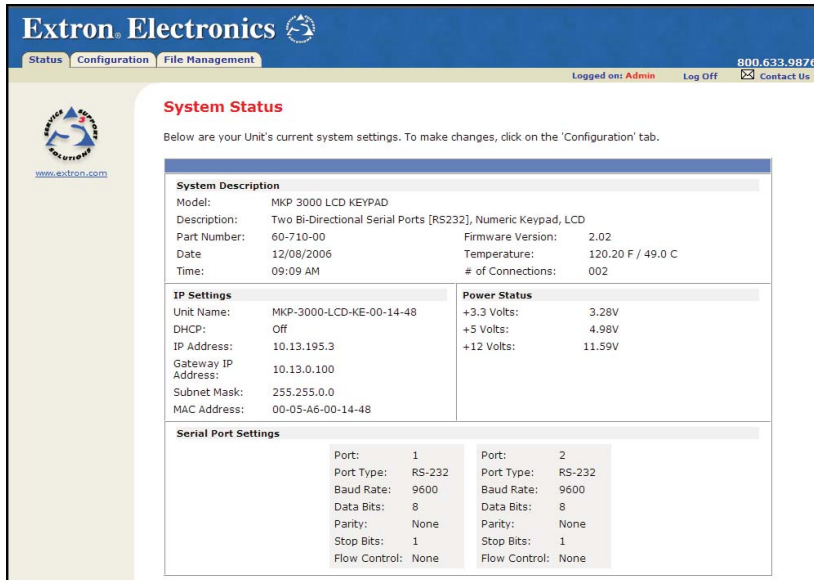

Figure 5-2 — System Status page
- **If neither of the above conditions is true**, the MKP downloads the System Status page (figure 5-2), which is the factory-installed default startup page with the file name "nortxe_index.html."
The System Status page on the Status tab (figure 5-2) provides an overall view of the MKP's current settings, including the IP and gateway addresses, the RS-232 port settings, the voltage, and the connections. Changes to these settings can be made via the Configuration Web pages, SIS programming, and/or the MKP front panel.